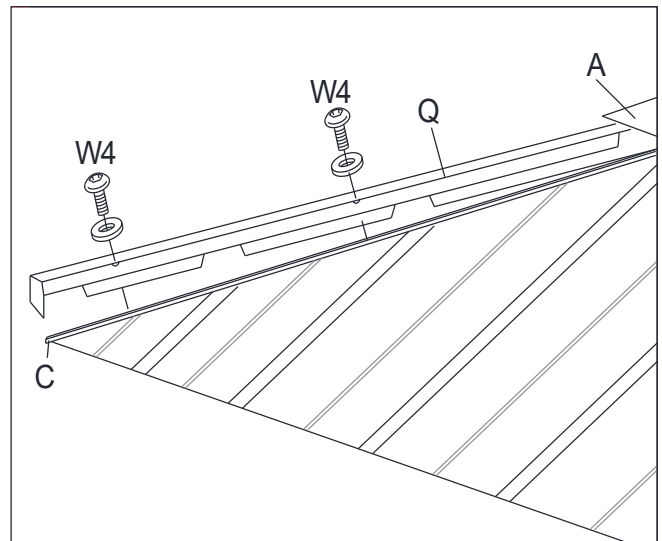

Fig.12.2
12. Put Top Panel Cover (Q) on the top of Long Top Bar (C) and then insert Top Panel Cover (Q) into the gap between Upper Central Connector (A) and Long Top Bar (C). Then attach Top Panel Cover(Q) to Long Top Bar (C) with Bolt (W4). See Fig.12 (Fig.12.1—Fig.12.2).